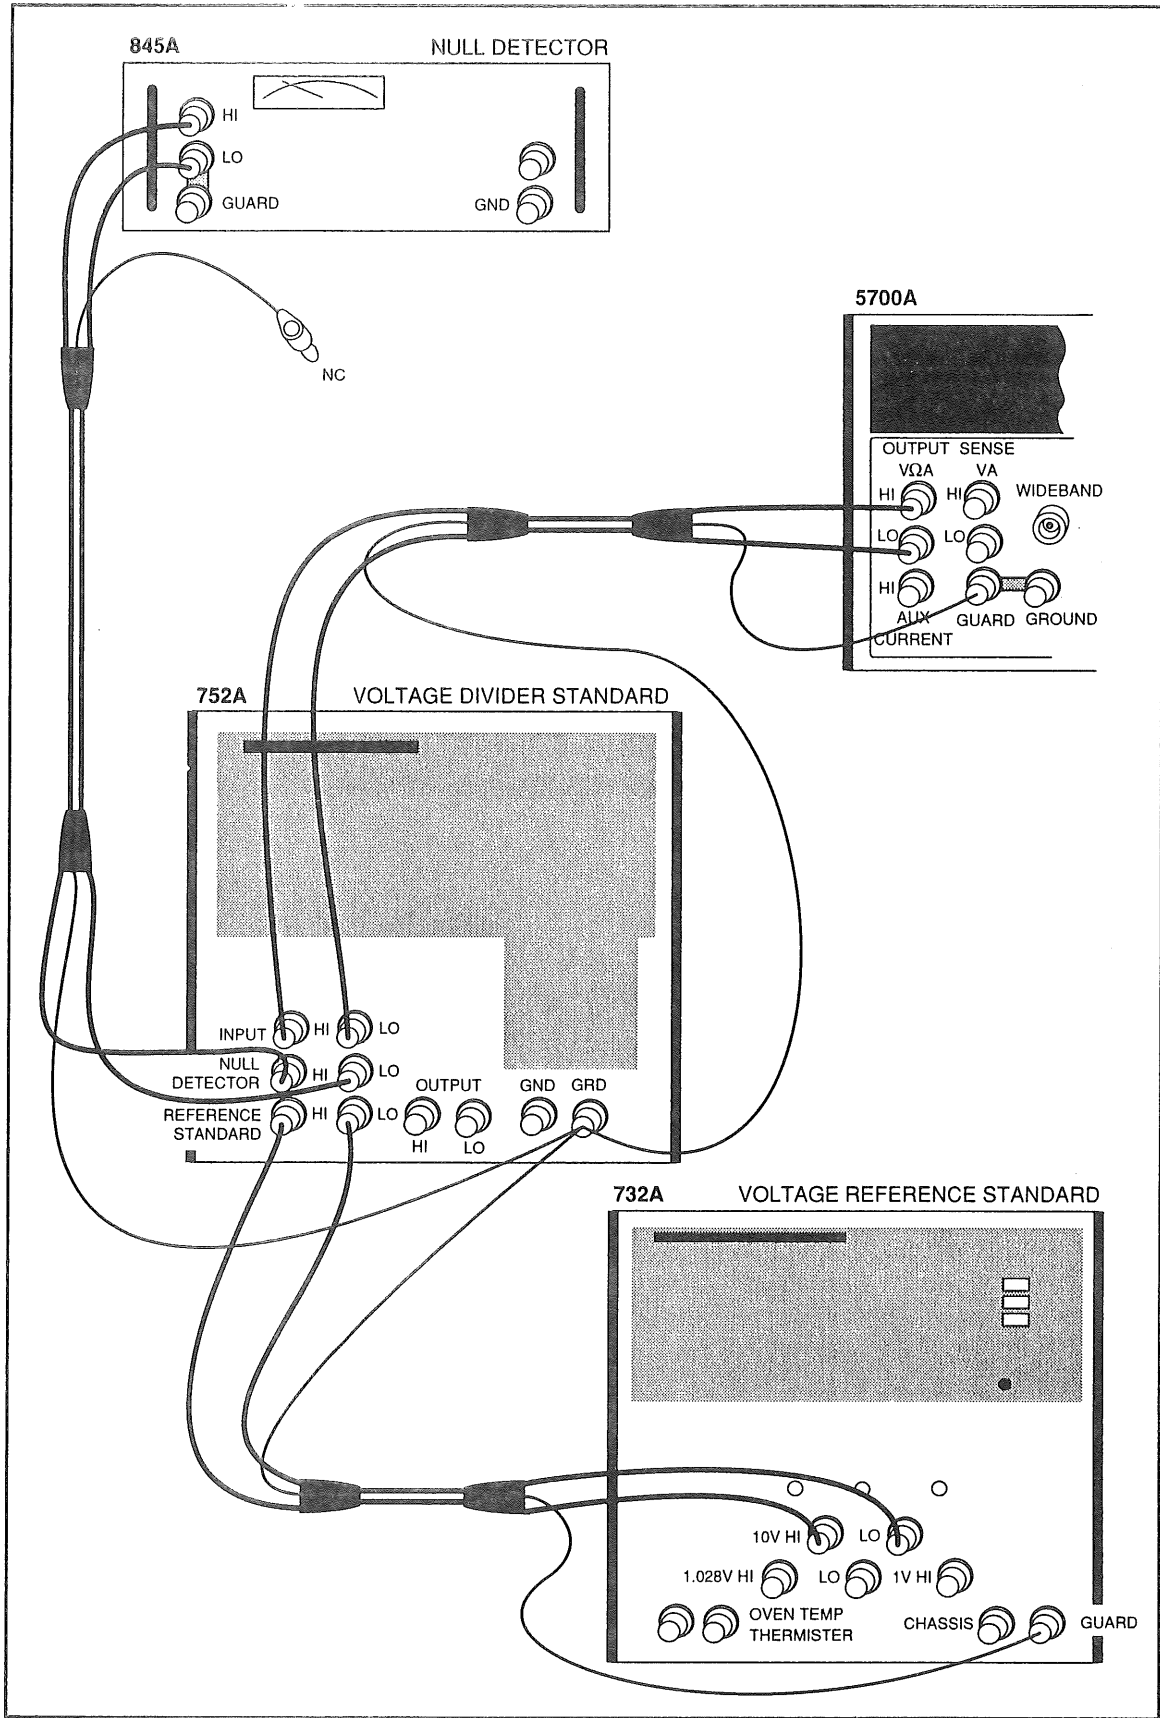

Figure 3-4. 220V DC Range Calibration Connections
7. Connect the 732A, 845A, and 752A in a 10:1 configuration as Figure 3-4 shows.